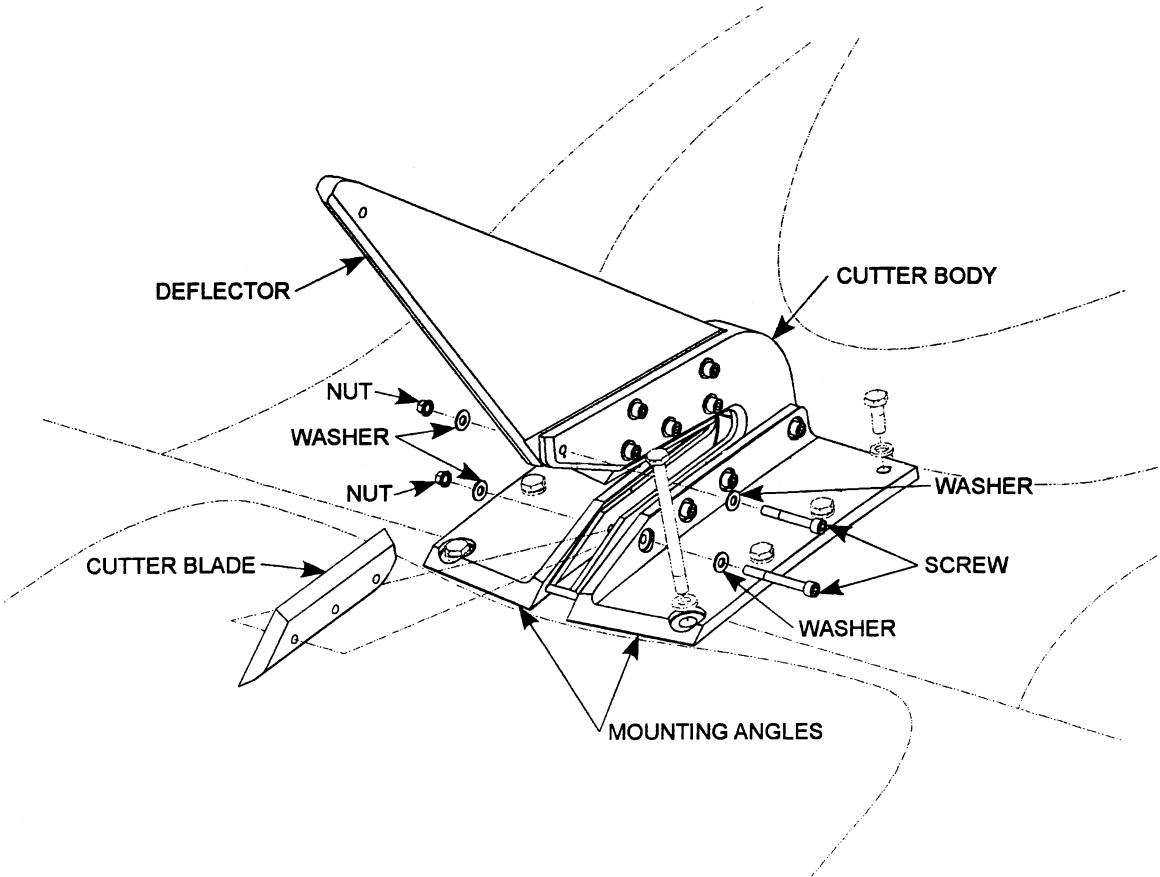

Figure 2-1 Upper Cutter Installation
2.3.2.1 Cutter Assemblies (Refer to Figure 2-1 and 2-2)
2.3.2.2 Deflectors (Refer to Figure 2-1 and 2-2)
2.3.2.5 Cutter Bodies (Refer to Figure 2-1 and 2-2)
2.3.4.2 Deflectors (Refer to Figure 2-1 and 2-2)
2.3.4.3 Mounting Angles (Refer to Figure 2-1 and 2-2)
2.3.4.4 Cutter Body (Refer to Figure 2-1 and 2-2)
2.3.4.5 Cutter Assemblies (Refer to Figure 2-1 and 2-2)
2.4.2 Removal: (Refer to Figure 2-1 and 2-2)
2.4.4 Installation: (Refer to Figure 2-1 and 2-2)**WARNING**